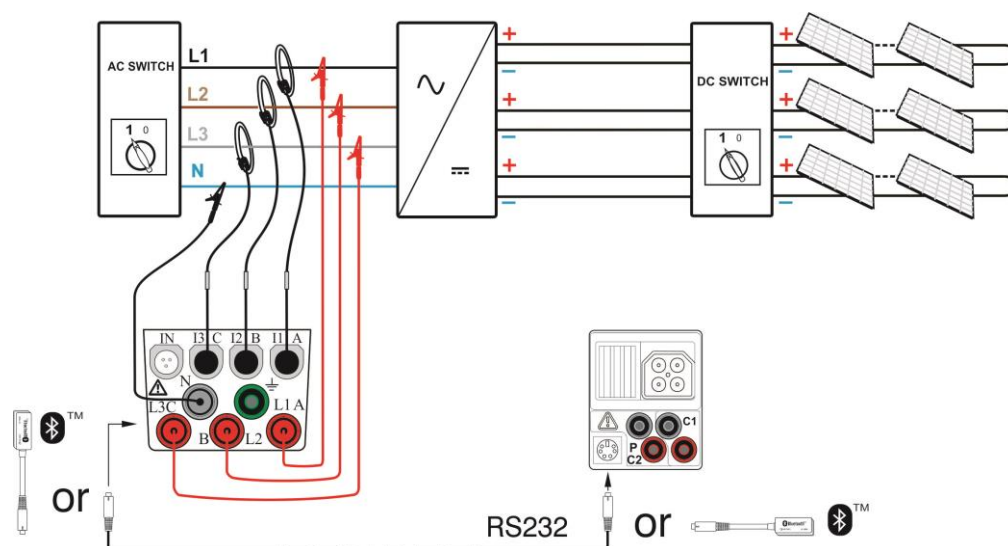

Figure 6.9: PV inverter test – 3 phase - AC side
- ❑ **Connect** PV safety probe and DC current clamp to the EurotestPV instrument (see figures 6.9 and 6.10).
- ❑ **Connect** voltage test leads to L1, L2, L3 and N at the output side of the inverter (see figures 6.9 and 6.10).
- ❑ **Connect** accessories to the PV system (see figures 6.9 and 6.10).